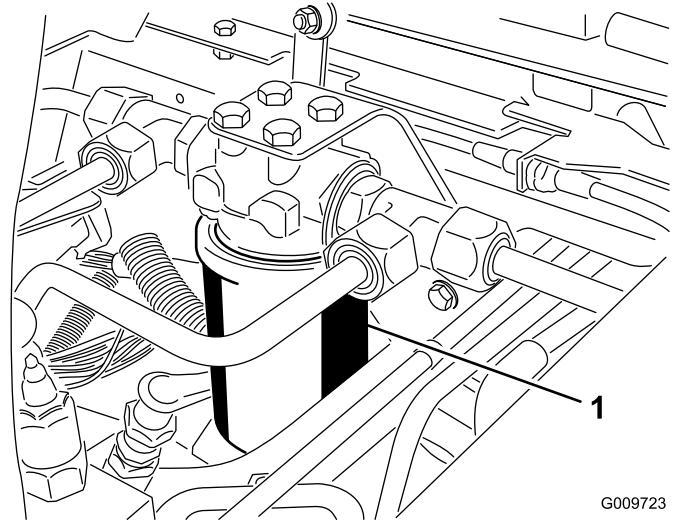
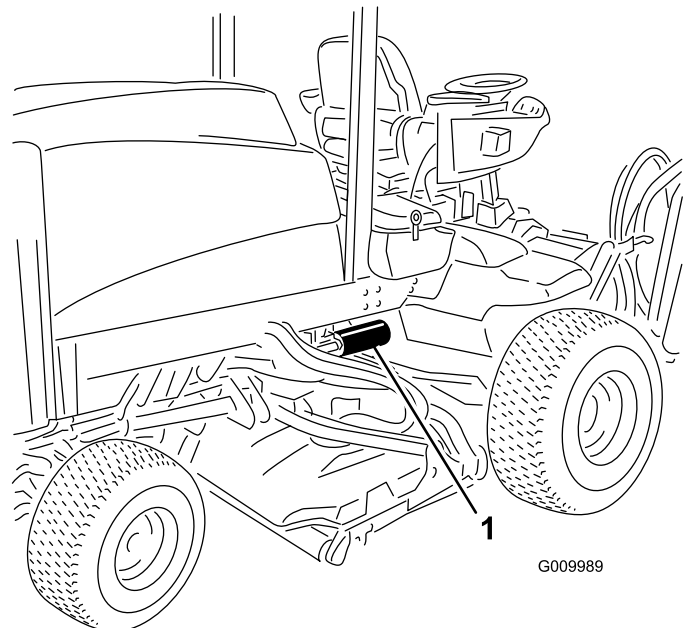

Figure 76
Figure 77
2. Clean the area around the filter mounting area. Place a drain pan under the filter and remove the filter (Figure 76 and Figure 77).